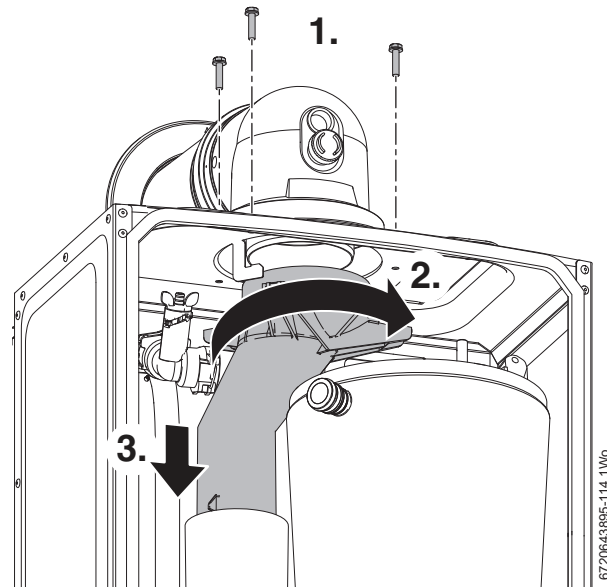

Fig. 85 Upper exhaust assembly
1. Refer to figure 85 and re move the three screws securing the turret to the top of the boiler.